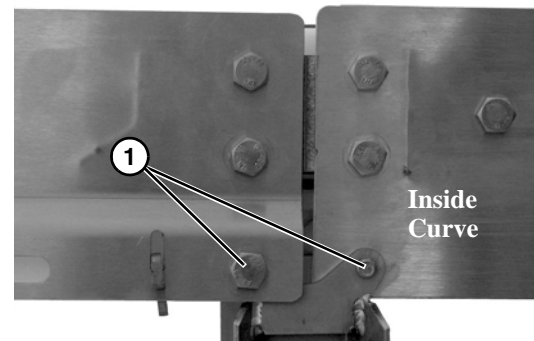

Figure 9
5. Tighten bolts on both sides of sections (Figure 9, item 1).